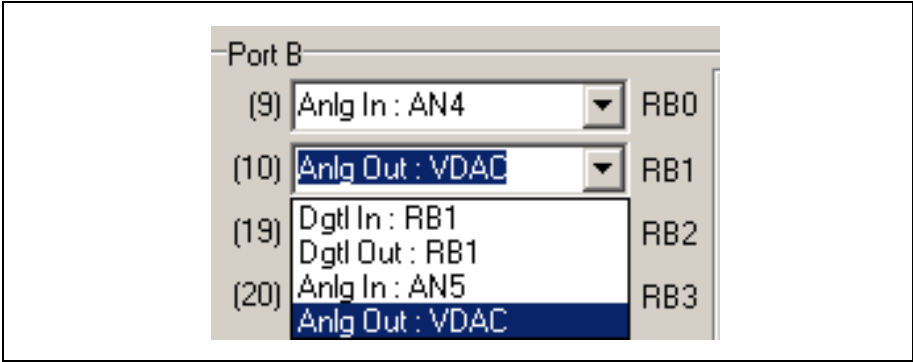

Figure 3.2: Enabling the VDAC Output
- 4. Using the drop-down menu of RB1, select the Anlg Out:VDAC option and press <Enter>, as shown in Figure 3.2.
The Evaluation Board software has built-in safeguards against performing certain functions out of sequence, or executing functions with missing parameters. For example, if you were to click the Arbitrary Waveform button (shown above) at this point in the configuration, you see the following warning message, shown in Figure 3.2: